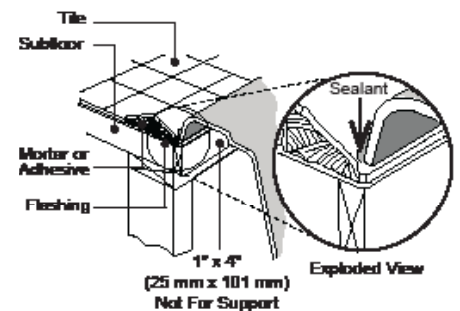

Fig. 7
7. Caulk around the perimeter of bathtub to seal the space between the rim and the finished deck (Figure 7).